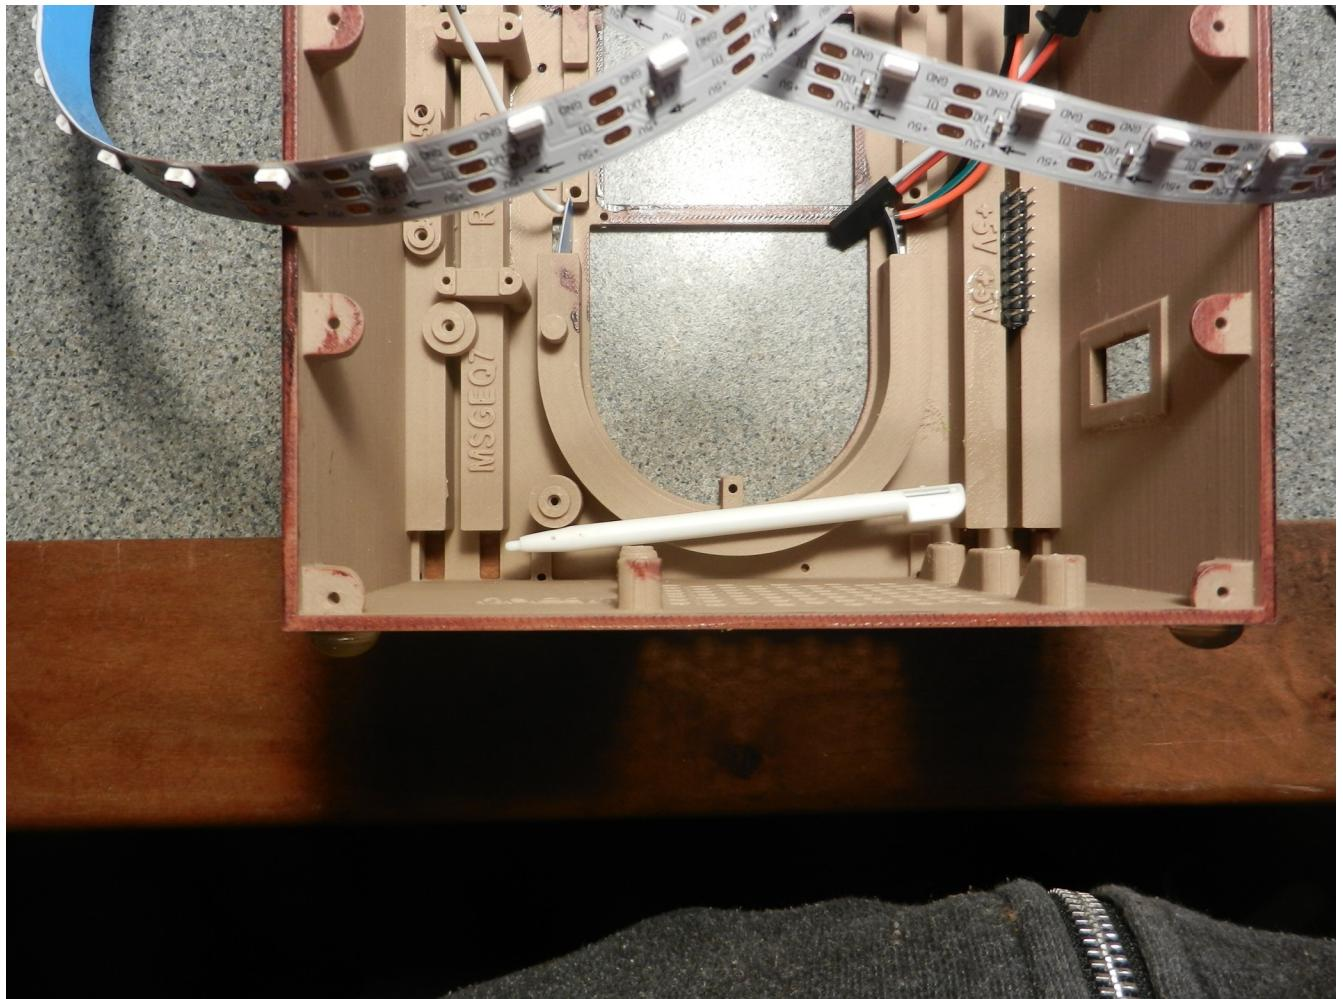

Figure 26, Where to go next.
4. Turn the case around, From the inside pass the LED strip through the rectangular hole on the bottom left (your left), inner LED holder. As before, 25 LED strip followed by the 23 LED strip (see Figure 26).